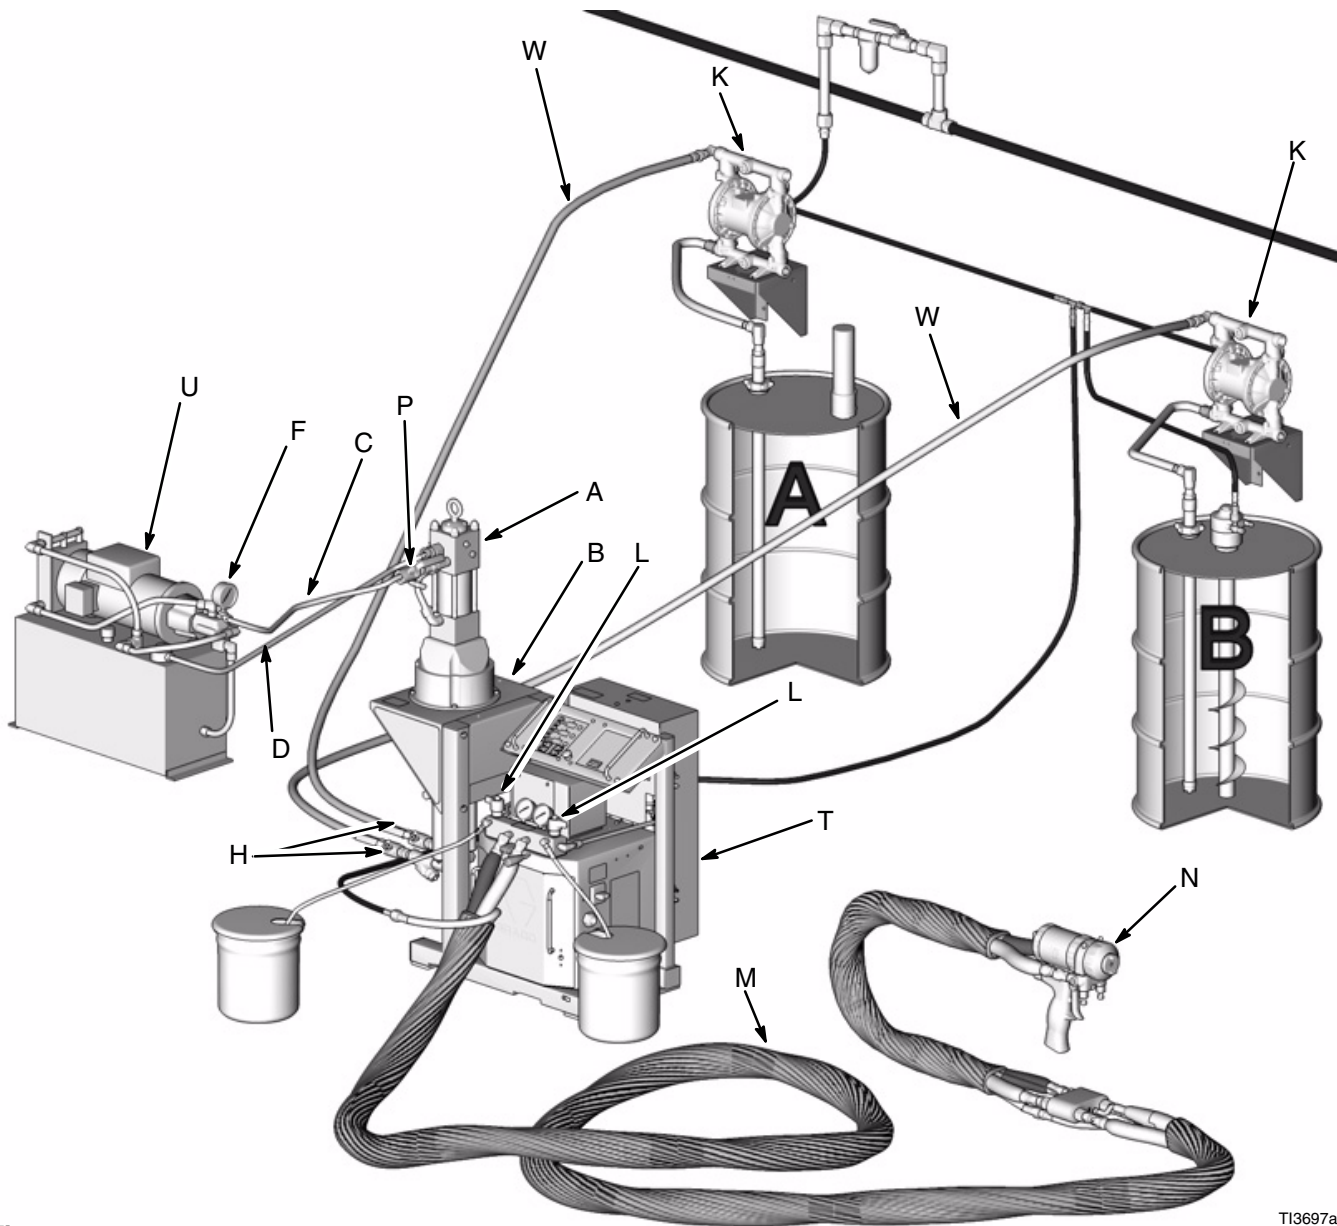

Fig. 3
Figs. 3 and 4 are only guides for selecting and installing system components and accessories. Contact your Graco distributor for assistance in designing a system to suit your particular needs.
In Fig. 3, the pump is shown mounted on a stand which mounts to the Reactor™ frame.
On the hydraulic supply line (C), install the following accessories in the order shown in Fig. 3, using adapters as necessary.
- **A shutoff valve (P)** to isolate the pump for servicing.
- **A fluid pressure gauge (F)** to monitor hydraulic oil pressure to the motor and to avoid overpressurizing the motor or displacement pumps, and **a pressure and temperature-compensated flow control valve** to prevent the motor from running too fast and possibly damaging itself.
- **A pressure reducing valve with a drain line** running directly into the hydraulic return line (D).
On the hydraulic return line (D), install the following accessories in the order shown in Fig. 3, using adapters as necessary.
Install the following accessories in the order shown in Fig. 3, using adapters as necessary.